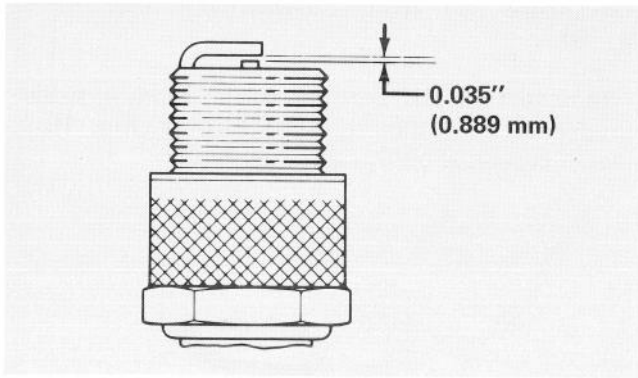

Figure 21
6. Set air gap between electrodes of new spark plug at 0.035 of an inch (0.889 mm) (Fig. 21). Install spark plug in cylinder head and tighten it to 15 ft-lb (20.4 N·m). If torque wrench is not used, tighten plug firmly.